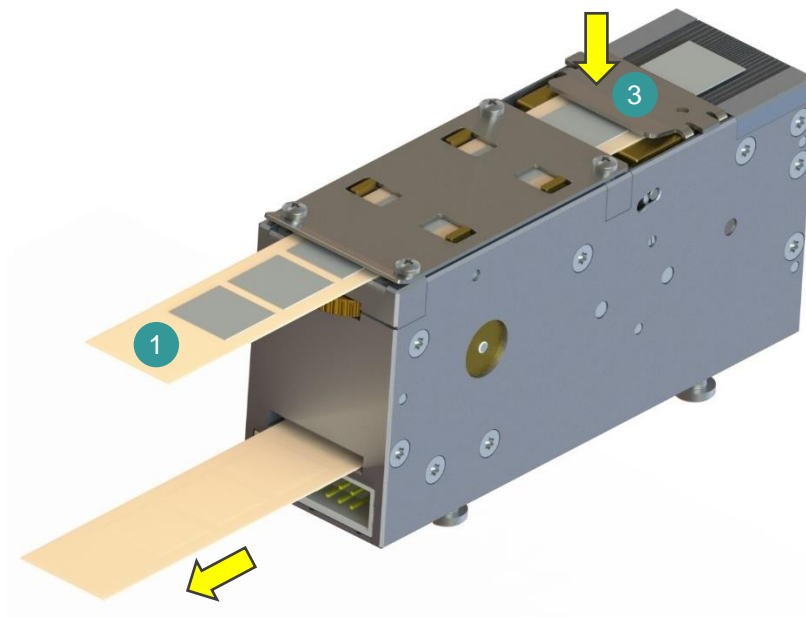

Fig. 11 Running the label carrier
- ▷ Take the end of the label carrier (1) and insert it through the open bracket clamp (3) into the transport axis opening (2). Please close the clamp (3) and use the "F button" on the control panel to convey the empty label carrier tape approx. 10 cm further out of the label feeder. See Fig. 11